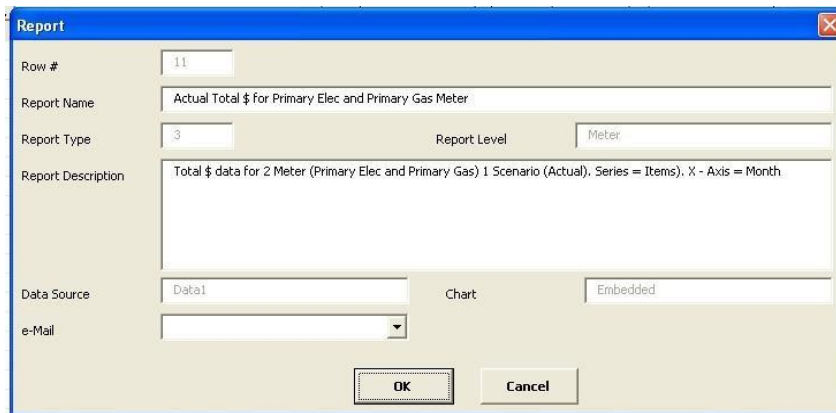

Figure 27: Report Detail Form
- b. Double click on any report in your list to open the Report Detail form. Figure 27 shows this form.